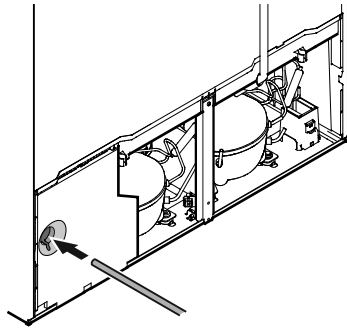

Figure 15
2. Insert the water supply line into its intended opening at the back of the appliance (Figure 15).